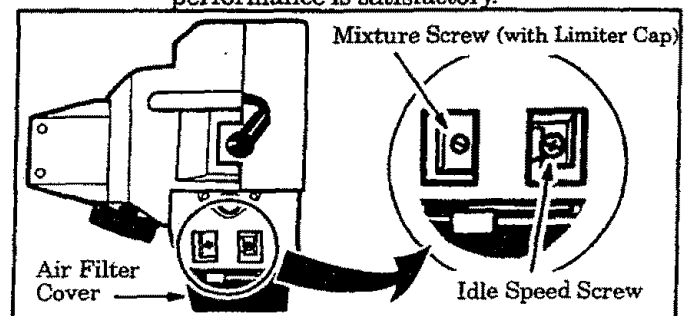

Figure 21
- Turn the mixture screw (Figure 21) to the midpoint. *Do not attempt to adjust the screw beyond the stops as damage can occur.*
2. Adjust idle speed screw (Figure 21) until engine continues to run without stalling.
3. Turn mixture screw (Figure 21) very slowly clockwise until engine speed is reduced.